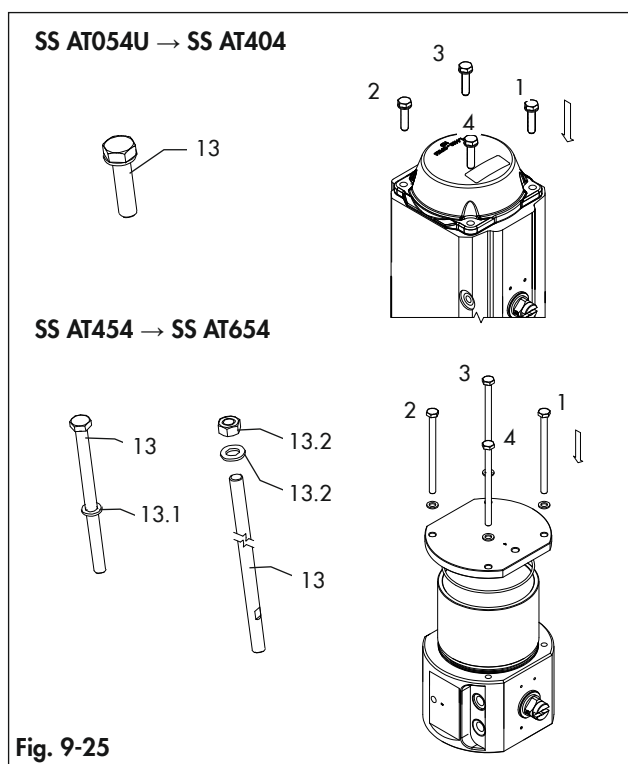

Fig. 9-25
- Place the actuator in vertical position as per Fig. 9-25.
- Lubricate the thread of the end cap screws/tie rods (13) with an anti-seize paste.
- Fix the end cap (30) fastening partially the cap screws (13) and nuts (13.2) 1 turn at a time following the sequence shown in Fig 9-25 along with the washer (13.1) if any.
- ➔ Observe the specified sequence shown in Fig. 9-25.
- Complete the fastening of the cap screws (13) or nuts (13.2) tightening 1 turn at a time for each screw in the sequence shown in Fig. 9-25.